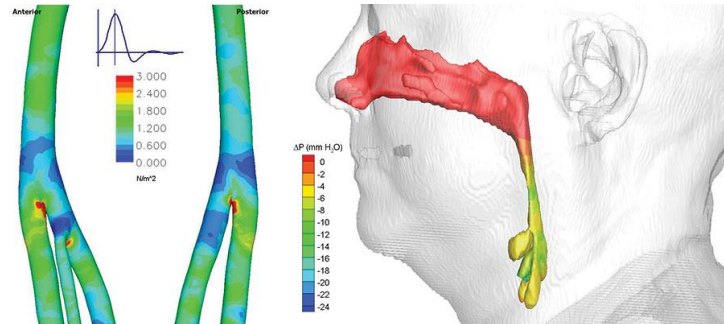

Figure 1
1. Blood Flow Simulation: Studying hemodynamics in arteries and veins, assessing the risk of atherosclerosis, figure 1.
2. Respiratory System Analysis: Airflow dynamics in lungs for asthma and Chronic Obstructive Pulmonary Disease (COPD) treatment, figure 1.